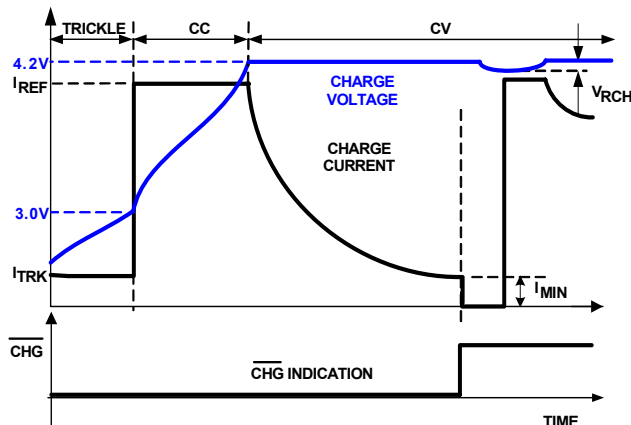

FIGURE 28. TYPICAL CHARGING CYCLE FOR CONT = L
The charger function is similar to other Li-ion battery chargers, i.e., it charges the battery at a constant current (CC) or a constant voltage (CV) depending on the battery terminal voltage. The constant current I_{REF} is set by the external resistor R_{IREF} . Depending on the combination of the AC/USB and the MODE pin status, the actual charge current may be reduced by the input current limit. When the battery voltage reaches the final voltage of 4.2V, the charger enters the CV mode and regulates the battery voltage at 4.2V to fully charge the battery without the risk of overcharging. Upon reaching an end-of-charge (EOC) current, the \overline{CHG} will turn to high impedance to indicate a charge complete state and if CONT is low, Q2 will be turned off to terminate charging. Figure 28 shows the typical charge profile with the EOC/recharge events when CONT is low.